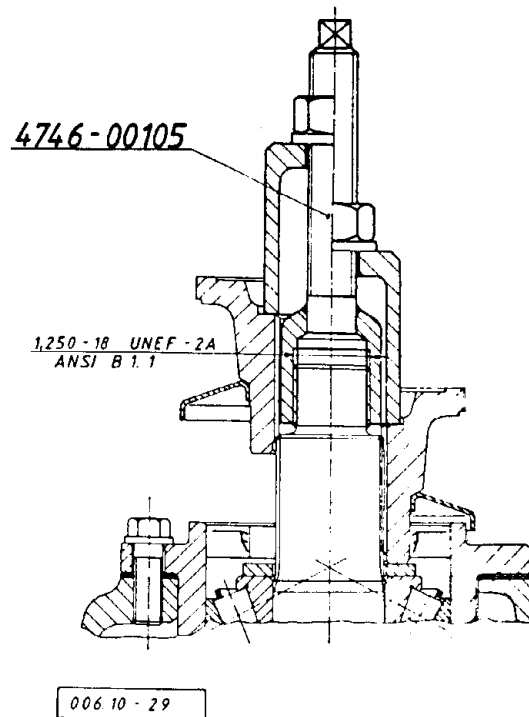

Fig. 3.: PRESSING ON THE COMPANION FLANGE
Press on the companion flange (3) to the splines of the drive pinion (16) to bottom out. Use the tool shown (Fig. 3.).